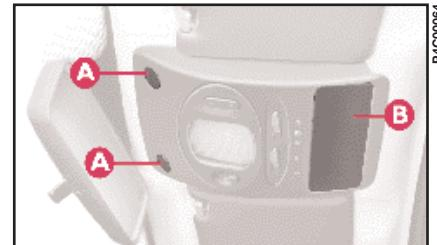

fig. 26
- 1) Remove the 2 plastic caps A and release cover B (fig. 26).